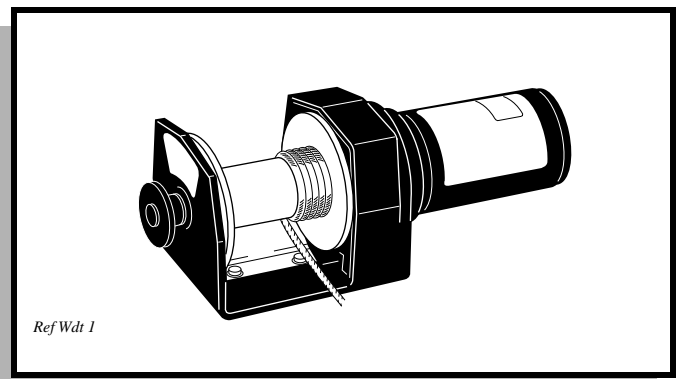

Fig. 10 Never Operate Winch with Less Than Five Turns Around Drum
Never operate the winch with less than five (5) full turns of cable around the drum (Ref. Fig. 10 on page 5). If the winch motor stalls from overloading, do not continue to activate the winch remote control. The wire cable may become overstressed.